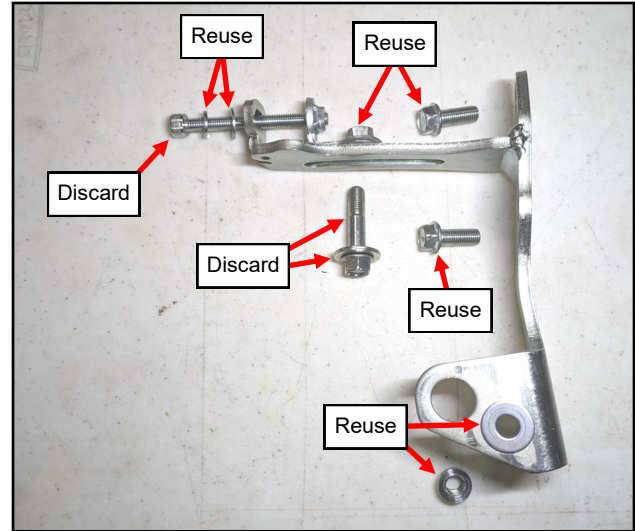

Fig. 3.3a (Disassemble OEM Upper Mount)
- 3.3 Assemble the new alternator tensioner using the OEM alternator adjuster bracket and the flat and split lock washers from the adjuster bolt. See figures 3.3a and 3.3b. The OEM adjuster bolt is not used.